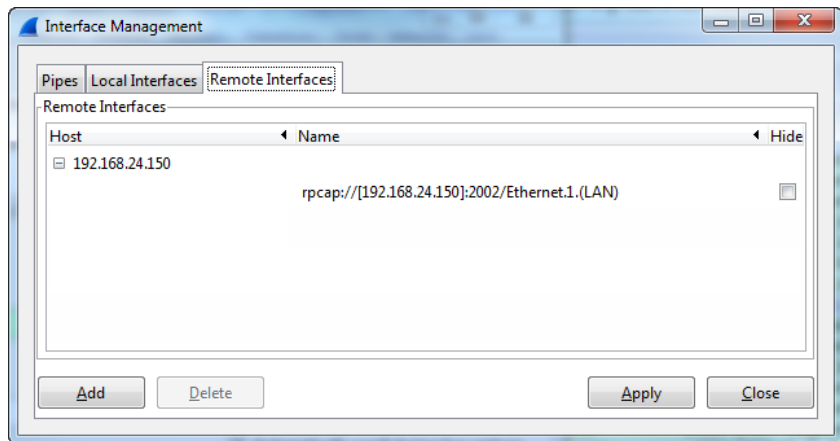

Figure 166: Added new interface to Wireshark.
7. If the connection to the device was established successfully, the **Remote Interfaces** list will be updated with information about all capture ports available on the device as shown in Figure 166.